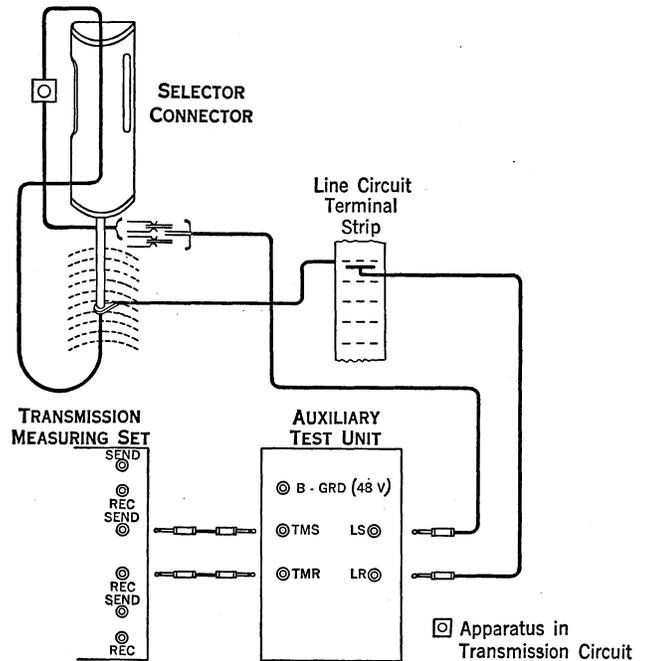

Figure 1
2.04 Figure 1 shows schematically the connections for the test.